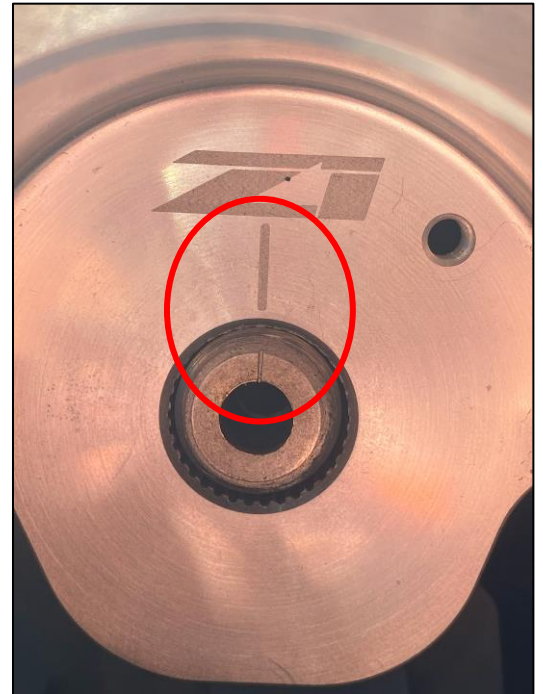

Figure 7
13. Place the Z1 Steering Wheel Hub Adaptor place it on the Steering Shaft. Line up the mark on the Steering Shaft with the mark on the Z1 Steering Wheel Hub Adapter. Feed the Horn Wire and the Button Control Wire through the openings if you are using them. *Figure 7.*